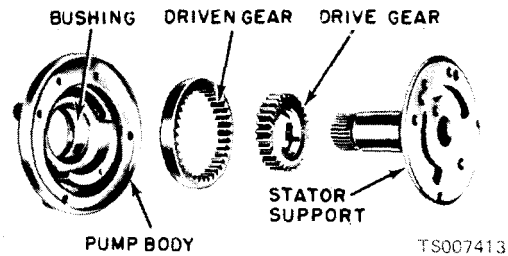

Figure 7-25. Front Pump.
(1) Remove the stator support attaching screws and remove the stator support. Mark the top surface of the pump driven gear with Prussian blue to assure correct assembly. Do not scratch the pump gears.
(2) Remove the drive and driven gears from the pump body.
(3) Refer to figure 7-25 for a disassembled view of the front pump. Inspect the pump body housing, gear pockets and crescent for scores.